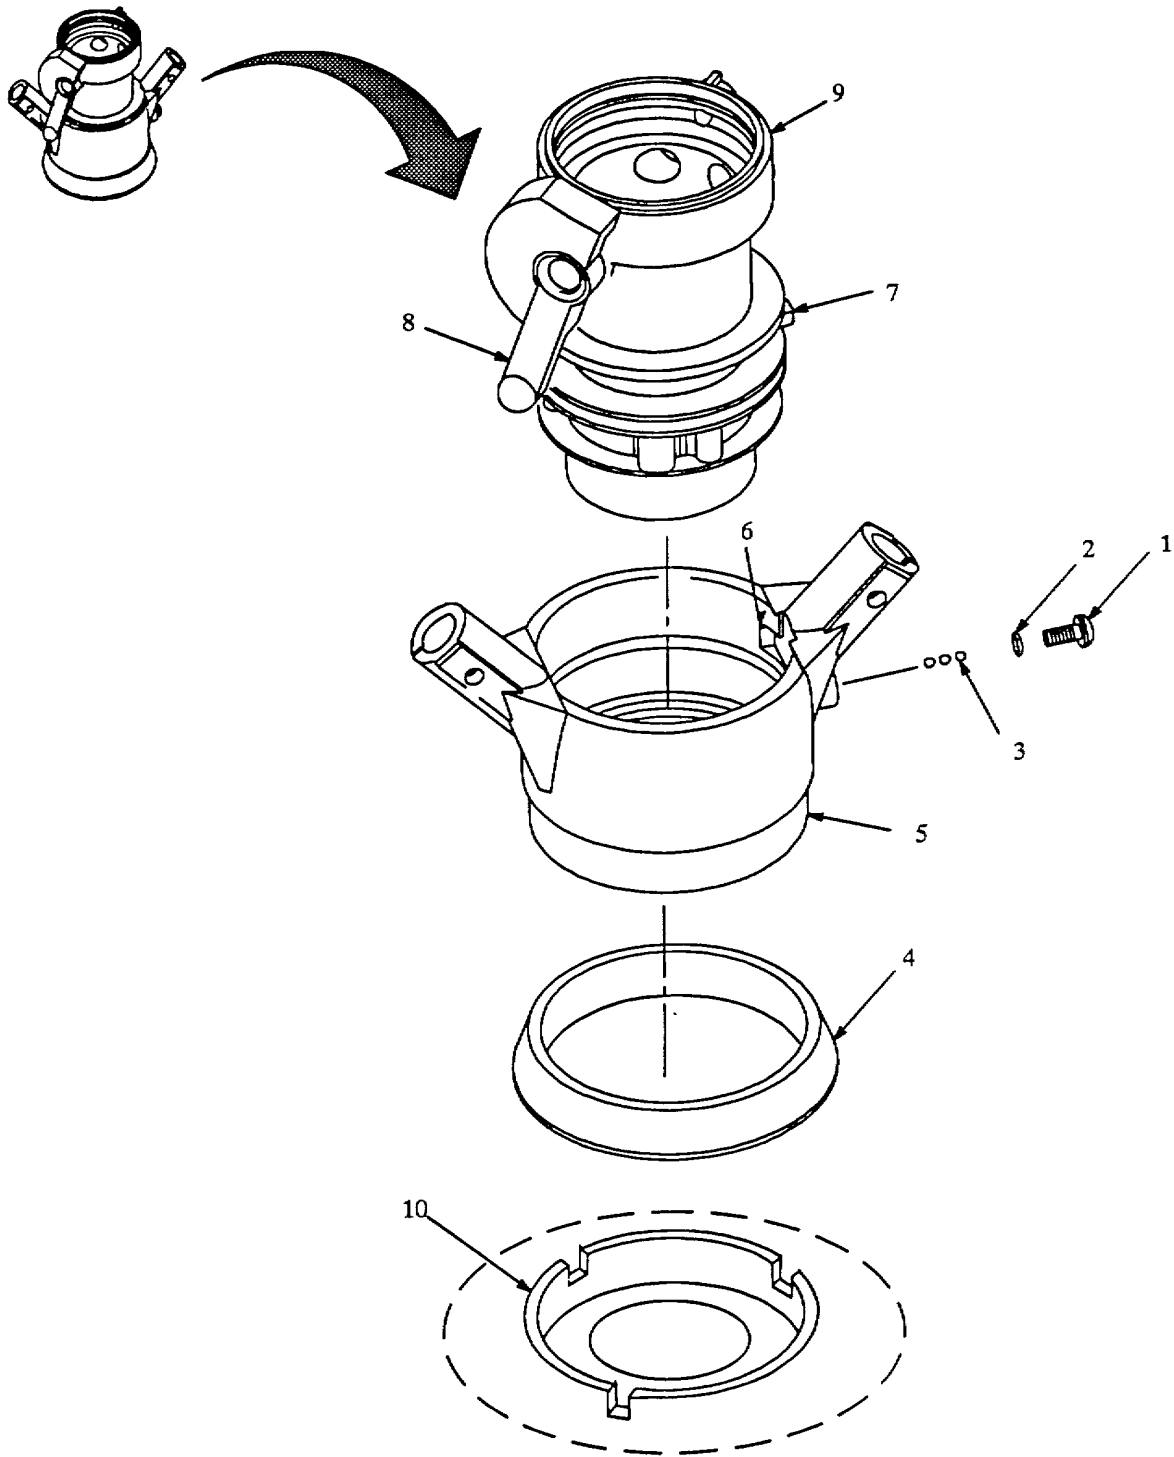

Figure 5-5. Nozzle Body and Collar Disassembly.
- (1) Remove screw (1, figure 5-5) and attached preformed packing (2) from collar (5).
- (1) Inspect collar (5, figure 5-5) for cracks, corrosion and worn adapter mating surfaces.
- (27) Set lever (8, figure 5-5) to CLOSE position.